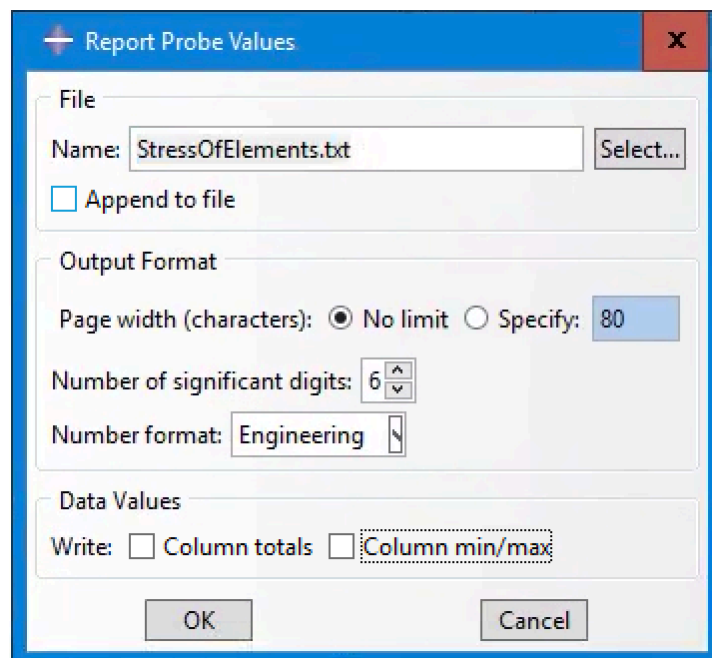
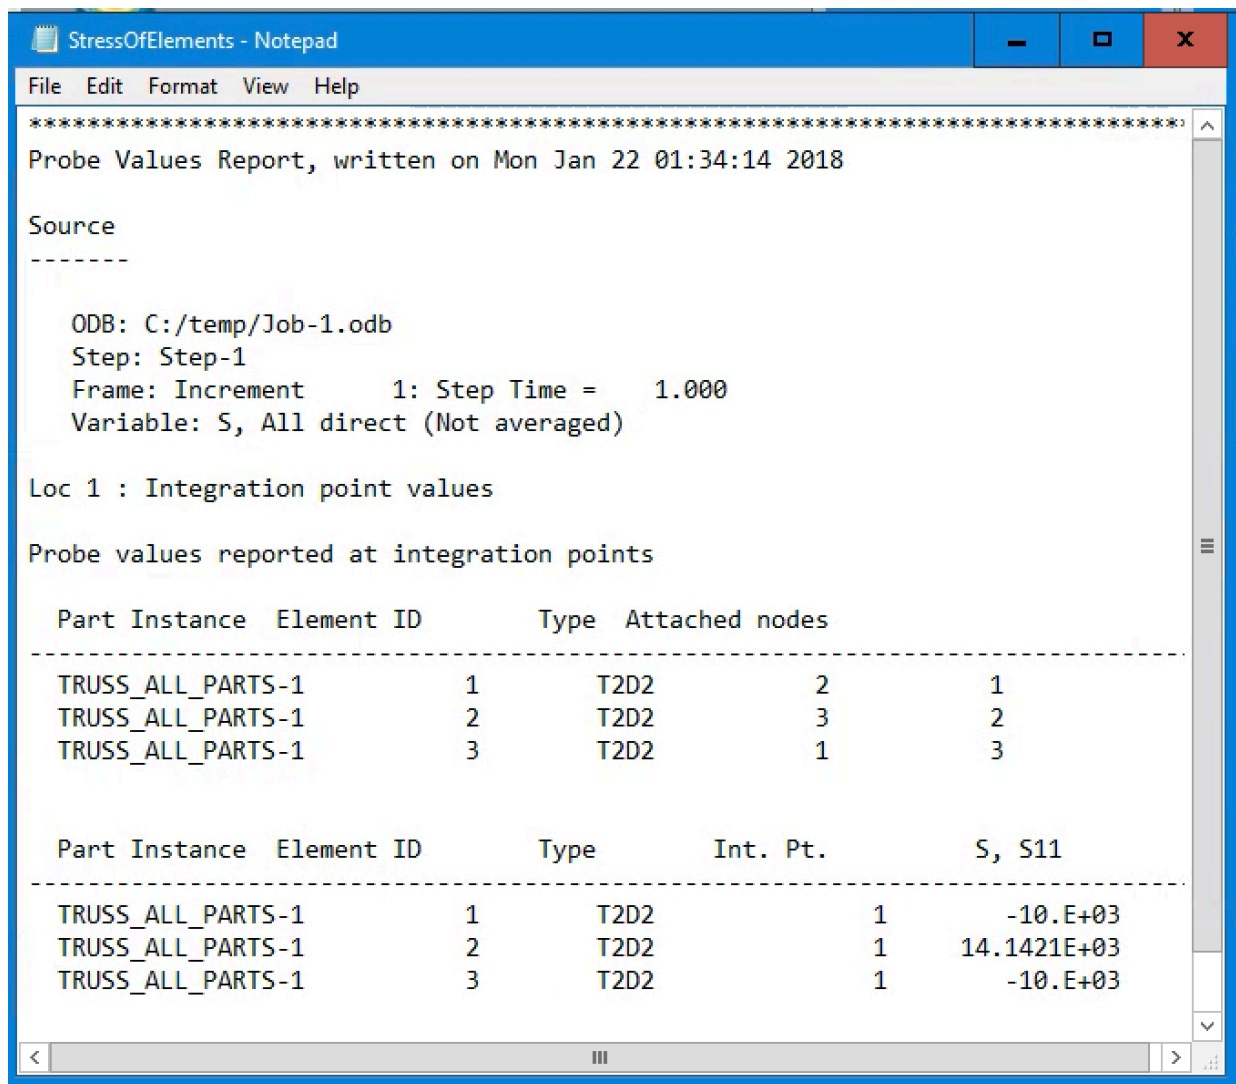

Figure 43 Writing probed values in an output file
Figure 44 Stored file containing probed values
- You can also store these values in a text file by checking the associated checkbox and then click on the **Write to File** button. In the **Report Probe Values** dialog box, you are able to specify the name and location of the file and also the output format to store the output results (Figure 43).
- For Instance, Figure 44 demonstrates the stress values for all elements, which are stored in a file named StreeOfElements.txt (See Figure 43). You can double-check these values with the values in reference book [2].